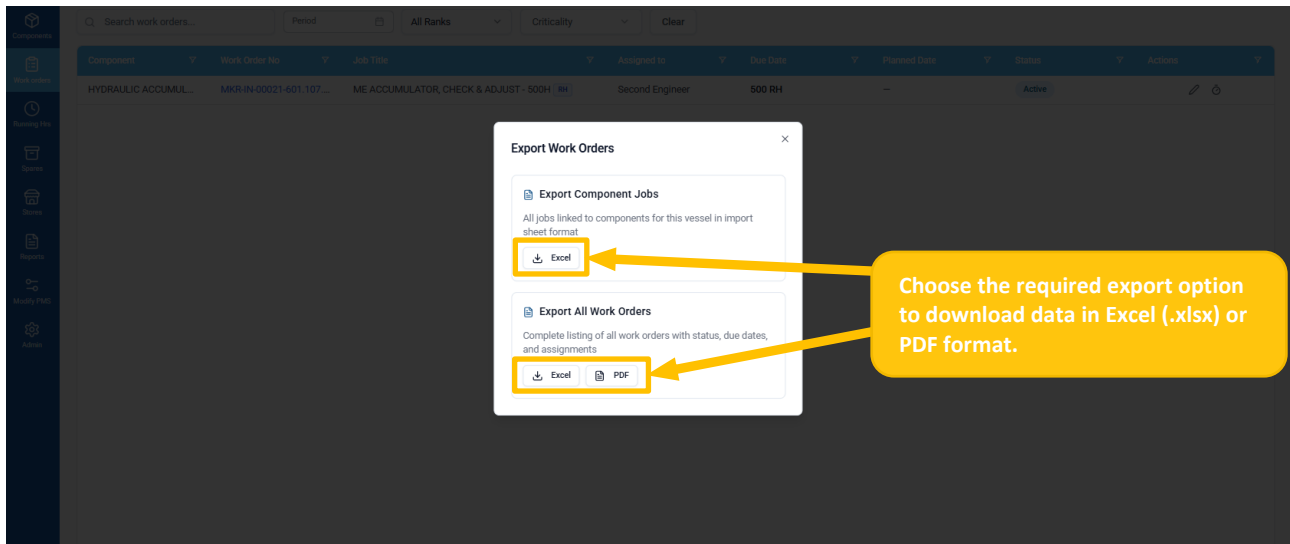

Figure 45
- The screen below appears after clicking the 'Export' button. (Ref Figure 45)
- The user can choose, as per their requirement, to export the reports accordingly (Ref Figure 45). The Export dialog provides two options: